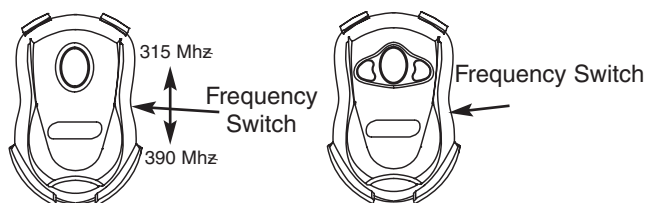

Figure 11 Genie Remote Controls
- A** To program one Button of a Remote Control (**Figure 11 and 12**):